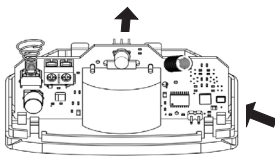

Figure 5
8.2 Insert a flat screwdriver between the PCB and the back wall of the base, depress the base wall and remove the PCB (Figure 5).